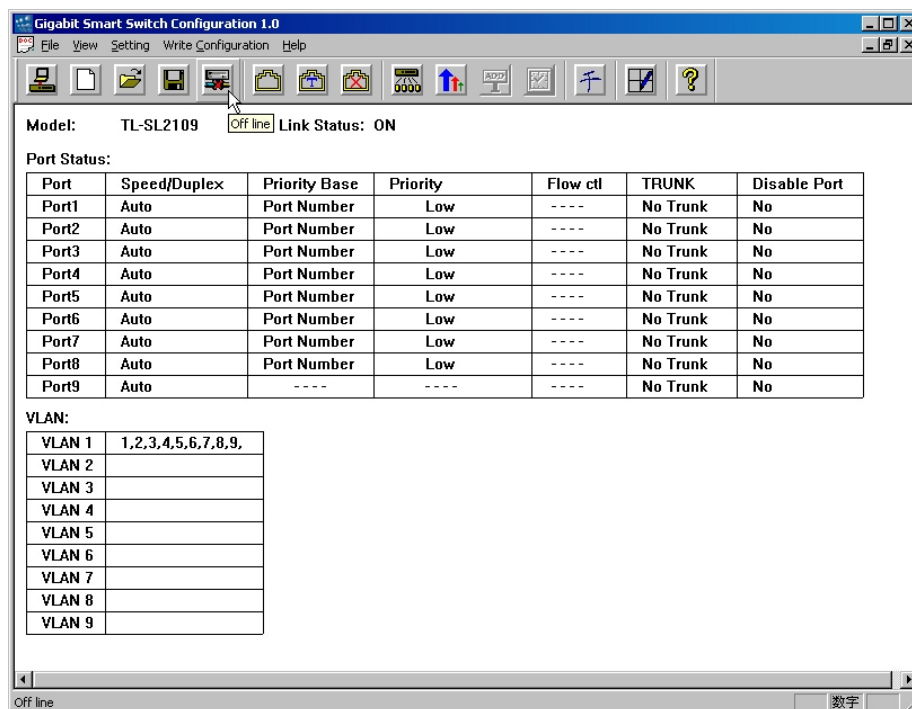

Fig 4.8 Connected successfully
4. After connecting successfully, the GSSC will read the configuration from the switch, and display the interface as Fig 4.8.